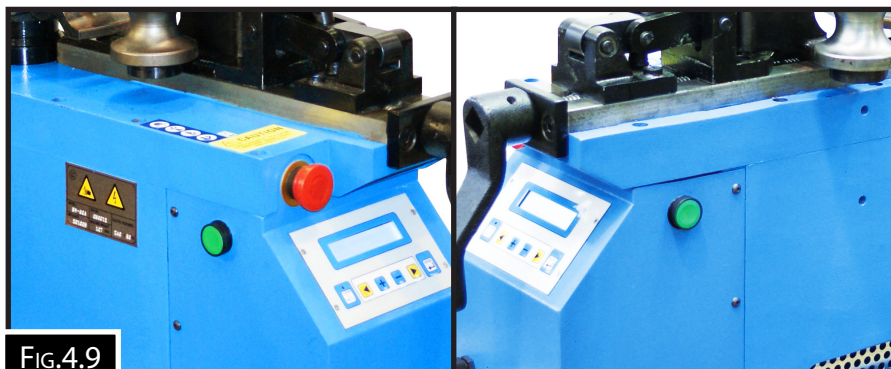

FIG.4.9
5. With two hands, press simultaneously the left hand and right hand green buttons found on the side of the machine body and hold the buttons in until bending is complete, (Fig.4.9) The display will count up to total of the bend angle (B+RE) and when fingers are released the bending arbour will return to "0" ready for next bend.